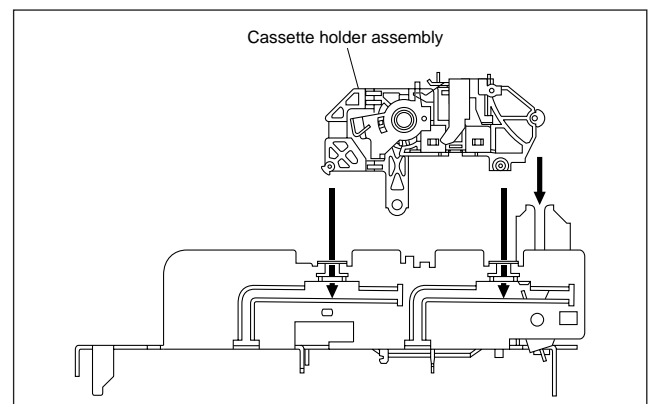
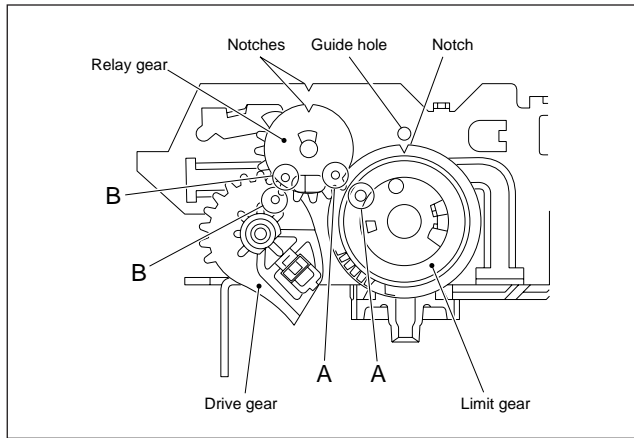

Fig. 2-2-3h
Fig. 2-2-3i
- (5) Drop the three legs on the left side of the cassette holder assembly into the groove at one time. (See Fig.2-2-3h.)
- (6) Slide the whole cassette holder assembly toward the front to bring it to the eject end position.
- (7) Install the limit gear so that the notch on the outer circumference of the limit gear is brought into alignment with the guide hole on the main deck. (See Fig.2-2-3i.)
- (8) Install so that the notch on the periphery of the relay gear is aligned with the notch of the main deck and that hole A of the relay gear is aligned with the hole B of the limit gear and that hole B of the relay gear is aligned with the hole B of the drive gear. (See Fig.2-2-3i.)
- (9) Install the door opener, opener guide, spring(A) and cassette housing bracket and fasten the two slit washers.